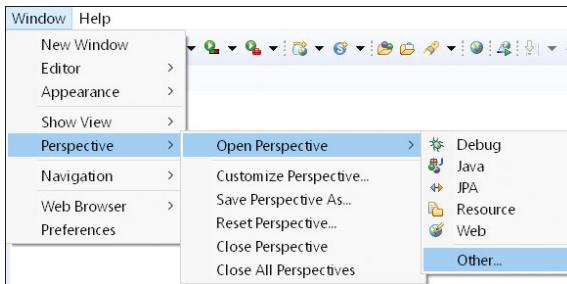

Figure 6.94 Opening a New Eclipse Perspective
1. In Eclipse, choose **Window • Perspective • Open Perspective • Other** (Figure 6.94).